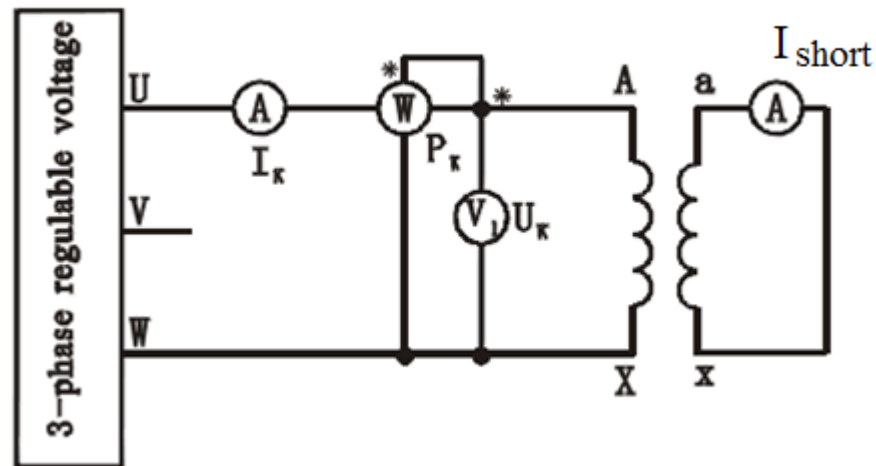

Figure 2: Short circuit test
- 1) Connect the circuit as per Figure 2. The HV winding is connected to the power supply, while the LV winding has the short circuit.